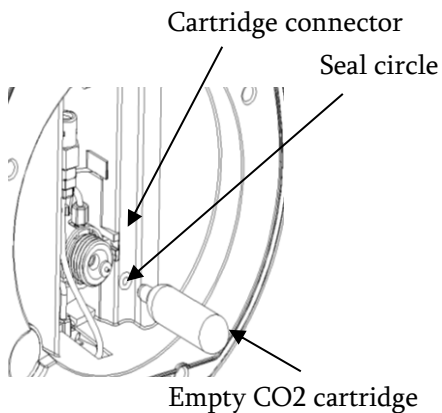

Figure 32
2. Install a new cartridge pierced probe in the regulator (leave the sharp end outside toward), and install the seal washer (Show as figure 32). Don't remove other parts of regulator in the replacing process.